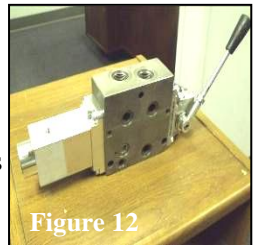

Figure 12
10. Once assembly has been completed as shown in Figure 12, install fittings and airlines and test for proper operation.